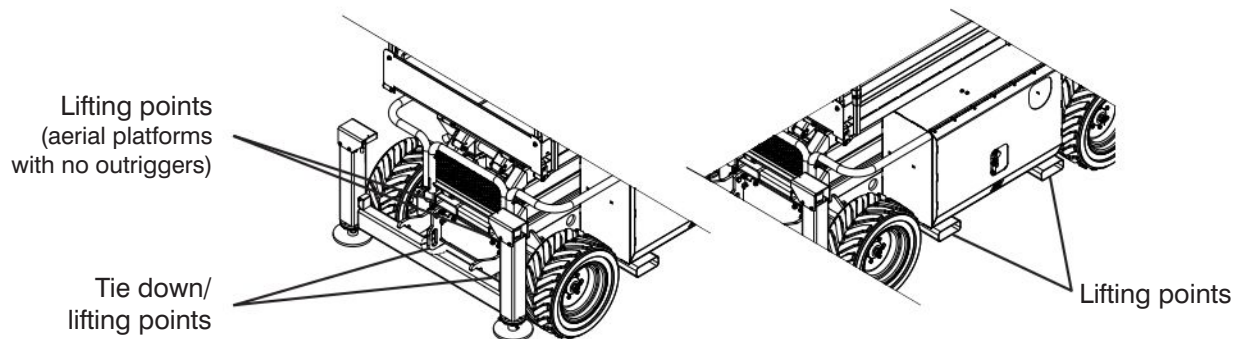

Figure 3-6. Tie Downs/Lifting Points
- The lifting/rigging must be attached to all twelve lifting points as illustrated in Figure 3-6.
When transporting, the aerial platform must be secured to the truck or trailer deck. Tie downs are available as illustrated in Figure 3-6.